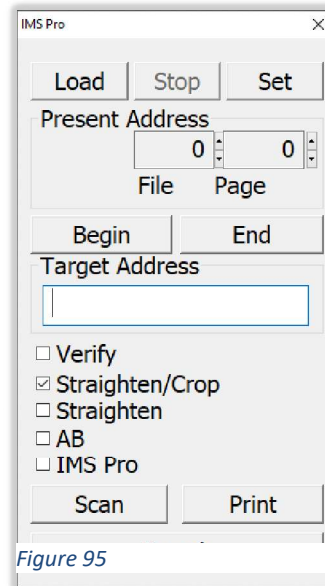

Figure 95
- f. Click the *IMS Pro* button again to open the *IMS Pro* window. *Figure 95*